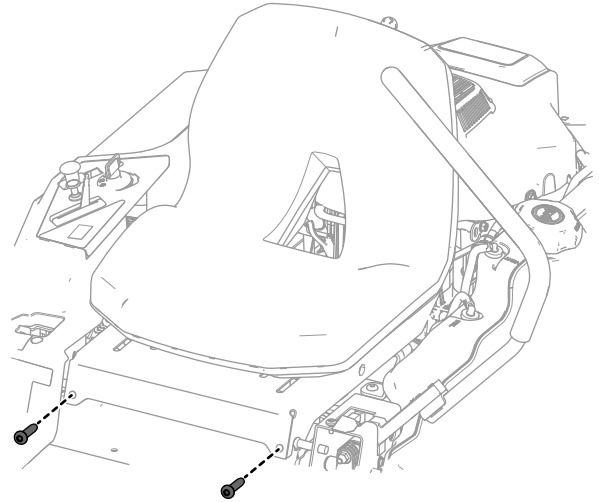

Figure 3
5. Remove the 2 bolts holding the existing seat assembly on the pivot rod (Figure 3).